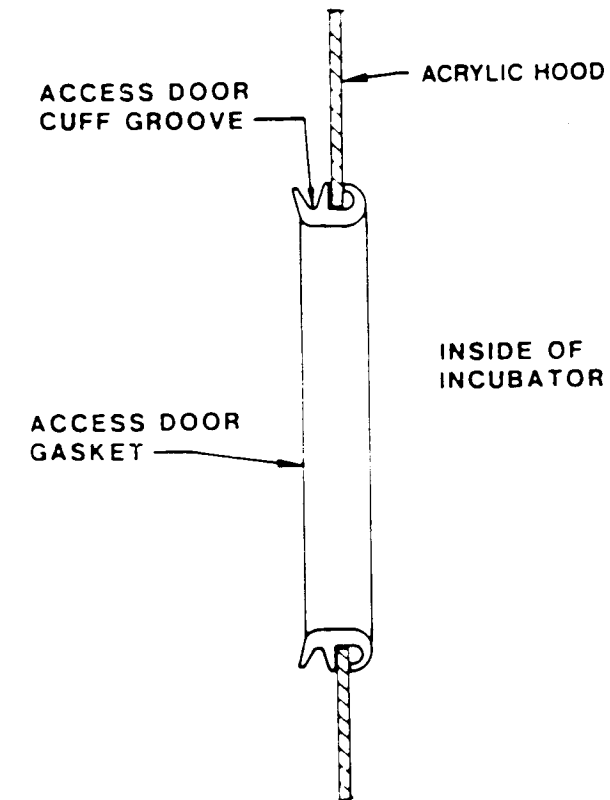

FIGURE 4.13 INSTALLATION OF ACCESS DOOR GASKET
I. **INSTALL AN ACCESS DOOR GASKET** behind each Access Door, as shown in Figure 4.13.